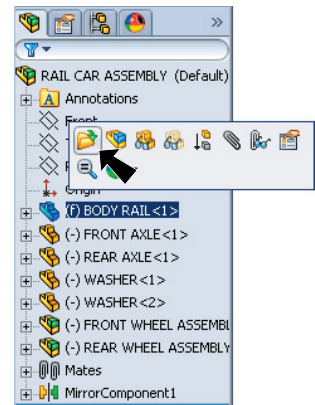

Fig. 37
Step 2. Click **BODY RAIL** in the Feature Manager and click **Open Part**  from the Content toolbar, **Fig. 37**.